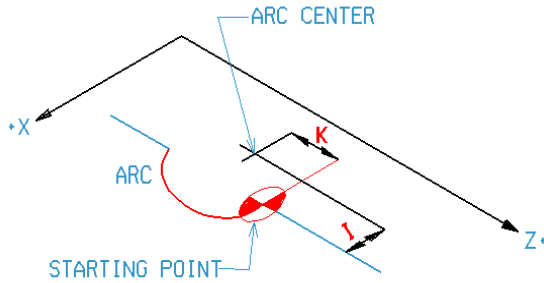

FIGURE 1
- In incremental IJ mode I and J (which represent the center point) are interpreted as relative to the starting point of a center format arc. **NOTE:** The **K** – word is used to locate the arc center in the ZX plane as measured along the Z axis. Therefore I and **K** are used in the ZX plane and not "J". This is specifically shown in FIGURE 1.
- The usual way is that I and K are the center relative to the current point at the start of the arc. This is sometimes called Incremental IJ mode. (see FIGURE 1)
Program G2 X Z R + or - value (or use G3 instead of G2). Note that the X & Z values for the end of the arc are based on incremental or absolute as previously shown in FIGURES 1 & 2 and the R value can be a positive or negative number.